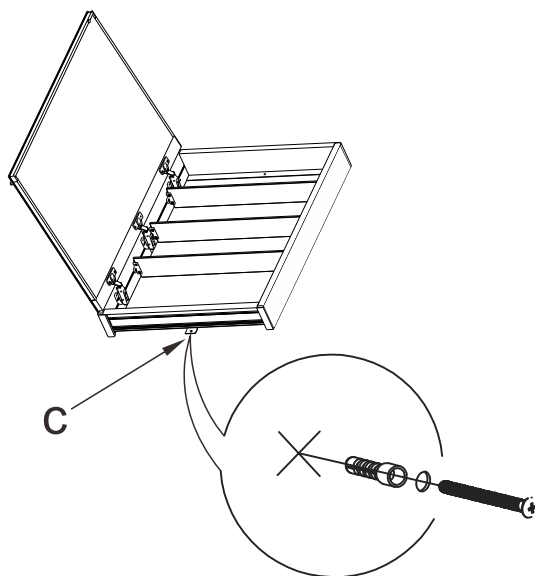

Fig.7
- 2.5 Remove the mirror cabinet, drill the fixing hole in the wall in the marked position, and place the expansion plugs (Fig. 7).